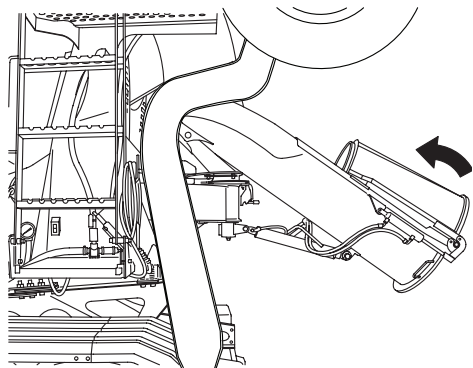

Figure 38
2. Slowly raise the chute into stored position (Figure 38).